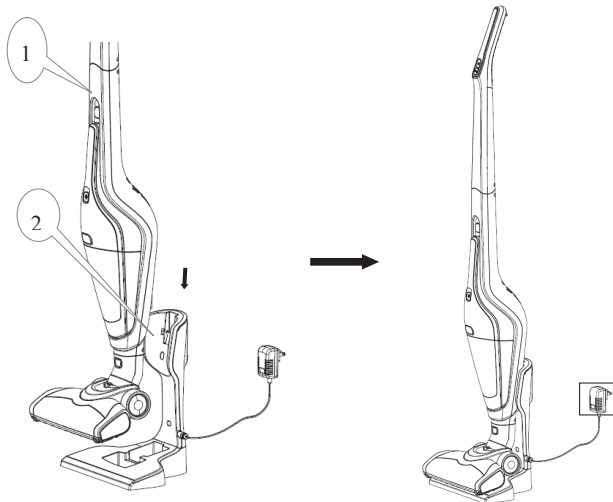

Fig. 9
2. Lift the appliance and put it onto the charger, make the socket of body (1) cover the charger stand (2), at that time the electricity quantity indicator turns on, and the appliance enters into the charging condition, all the charging indicators will turn on when finish charging. (see Fig. 9).